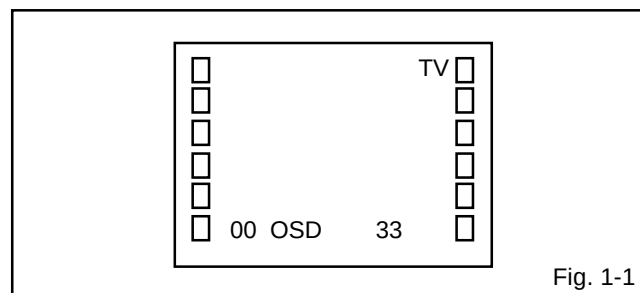

Fig. 1-1
1. In the condition of NO indication on the screen. Press the VOL. DOWN button on the set and the Channel button (**9**) on the remote control for more than 2 seconds to appear the adjustment mode on the screen as shown in **Fig. 1-1**.
3. Activate the adjustment mode display of **Fig. 1-1** and press the channel button (**01**) on the remote control to select "CUT OFF".
4. Activate the adjustment mode display of **Fig. 1-1** and press the channel button (**12**) on the remote control to select "R. BIAS".
3. Activate the adjustment mode display of **Fig. 1-1** and press the channel button (**06**) on the remote control to select "H. SIZE".
3. Activate the adjustment mode display of Fig. 1-1 and press the channel button (07) on the remote control to select "V. SIZE".
3. Activate the adjustment mode display of Fig. 1-1 and press the channel button (08) on the remote control to select "V. LINERITY".
3. Activate the adjustment mode display of Fig. 1-1 and press the channel button (34) on the remote control to select "TRAPEZIUM".
3. Activate the adjustment mode display of Fig. 1-1 and press the channel button (03) on the remote control to select "H.PHASE".
2. Activate the adjustment mode display of Fig. 1-1 and press the channel button (35) on the remote control to select "LEVEL".
3. Activate the adjustment mode display of Fig. 1-1 and press the channel button (36) on the remote control to select "SEPARATION1".
4. Activate the adjustment mode display of Fig. 1-1 and press the channel button (36) on the remote control to select "SEPARATION1".
8. Activate the adjustment mode display of Fig. 1-1 and press the channel button (37) on the remote control to select "SEPARATION2".